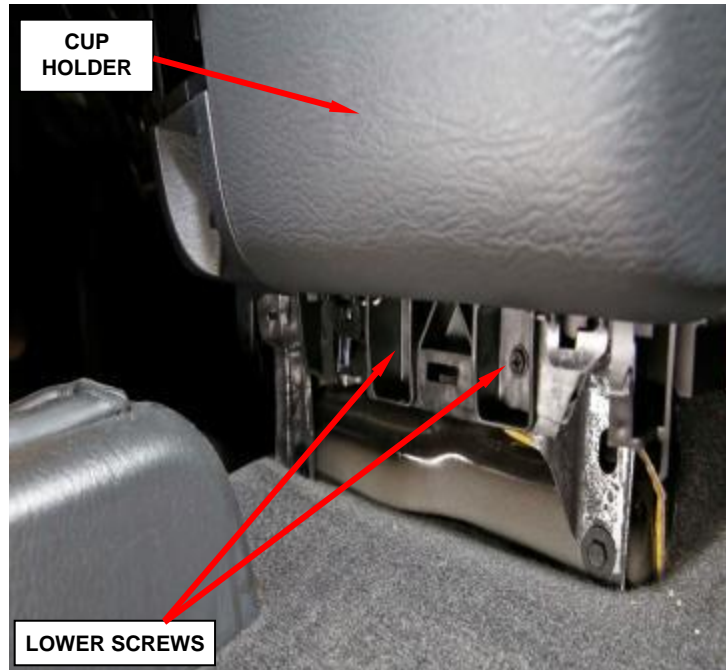

Figure 9 – Lower Cup Holder Screws
- c. Remove and save the two lower screws that secure the cup holder to the instrument panel (Figure 9).